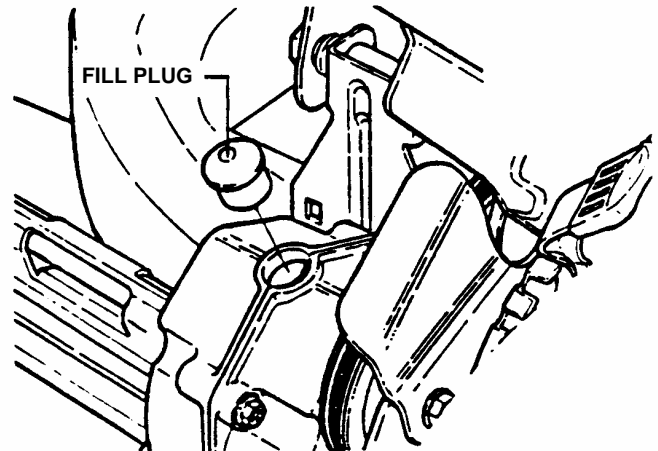

FIGURE 3.2
2. If liquid grease IS NOT visible on the input gear (the small gear below the plug hole), add an amount, to cover gear, of Snapper "00" grease. See Figure 3.2.